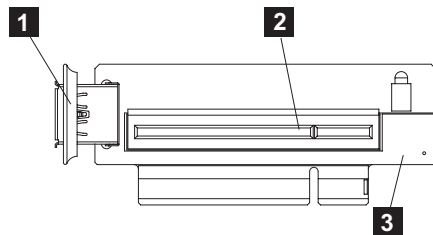

Figure 198. USB riser-card assembly for the SAN Volume Controller 2145-CF8
7. Remove the USB service-controller cable from the USB connection (**1** in Figure 198) on the disk-controller and USB riser-card assembly (**3**), as described in “Removing and replacing the SAN Volume Controller 2145-CF8 service controller cable” on page 94.